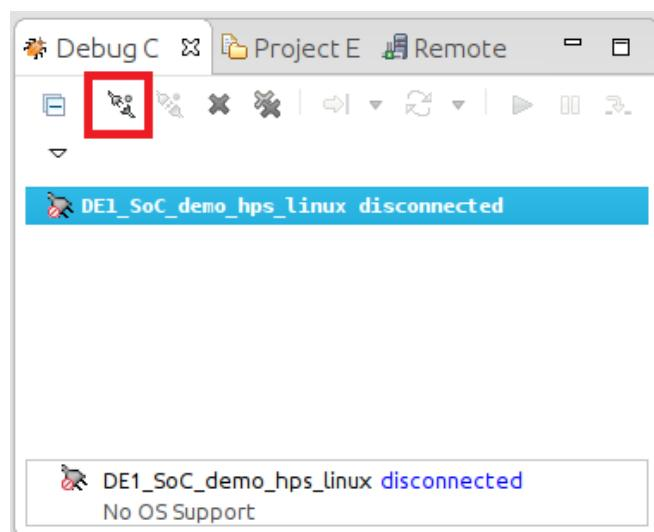

Figure 13-34. Debug Control View
82. In the “Debug Control” view, click on the “DE1_SoC_demo_hps_linux” entry, then click on the “Connect to Target” button, as shown on Figure 13-34. The debugger will start an SSH connection to the linux distribution running on the DE1-SoC and will automatically transfer our binary file and wait at our application’s “main()” function. If you are prompted to log in, then log in with the **ROOT** user and password.